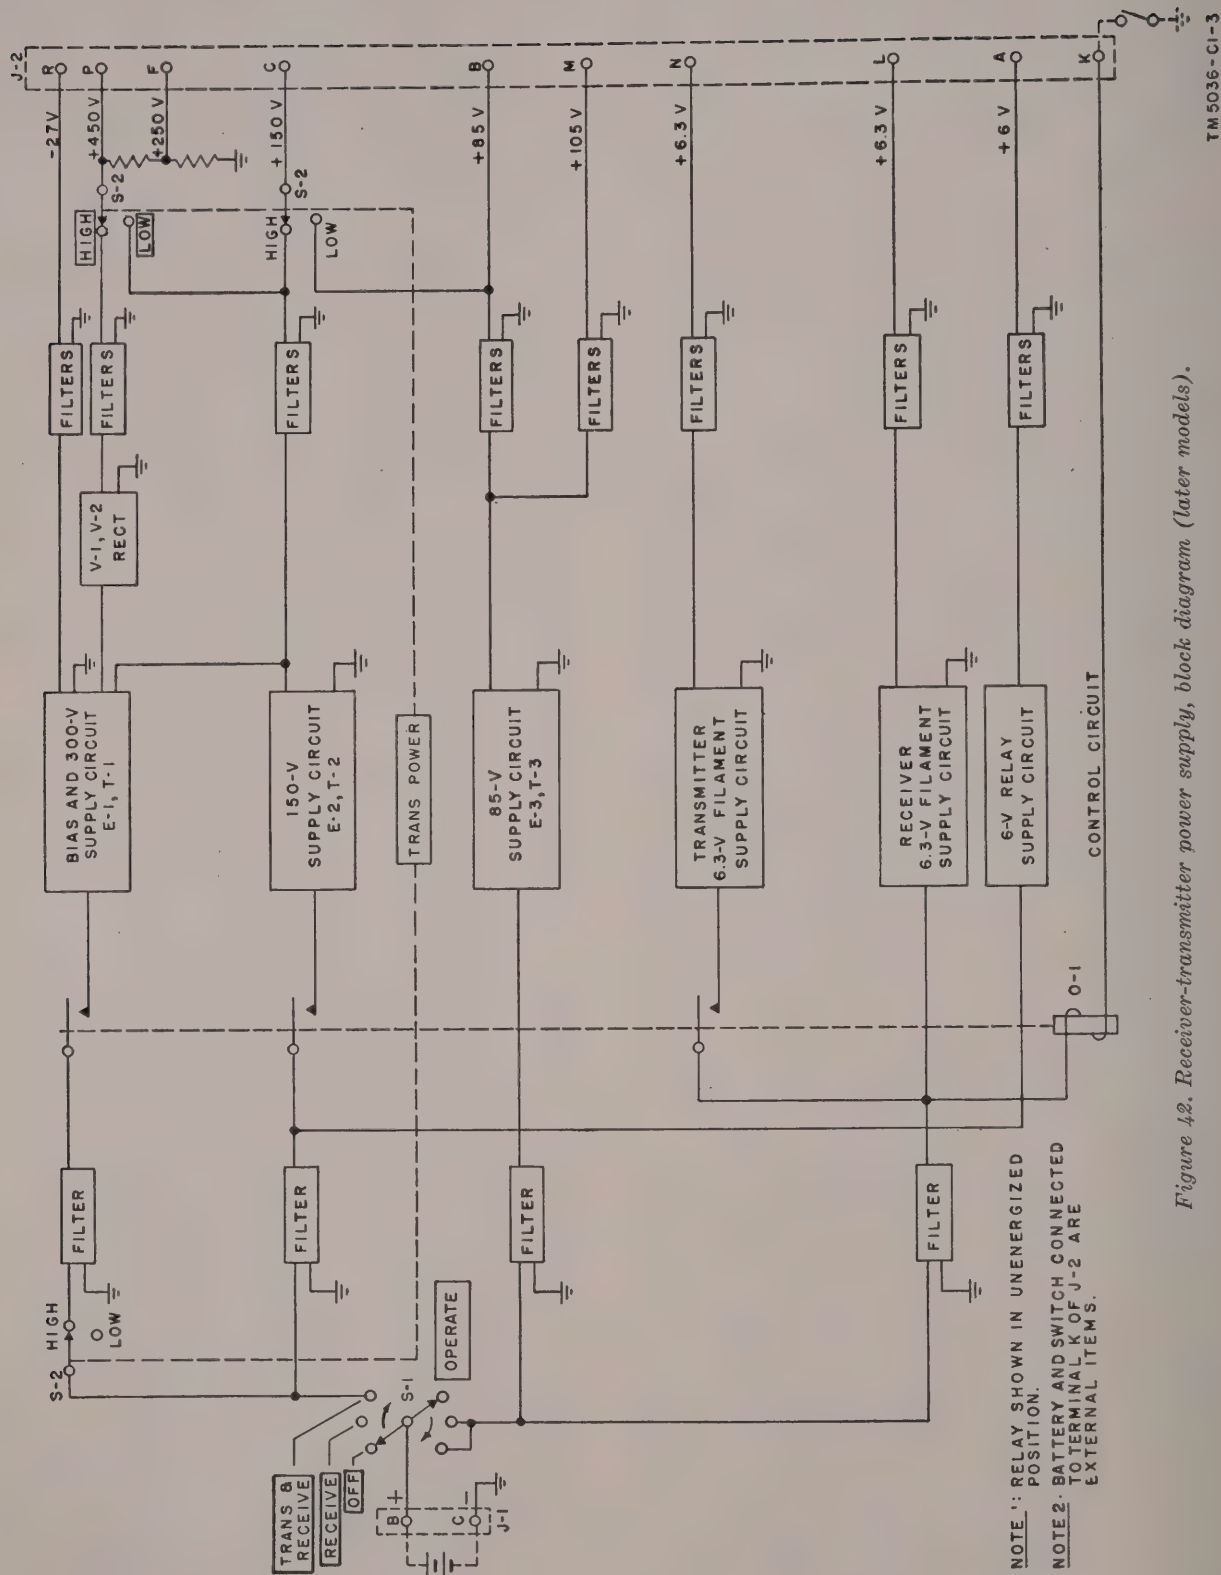

Figure 42. Receiver-transmitter power supply, block diagram (later models).
The discussion of unit theory is limited to block diagram analyses of the major units. Although the maintenance information included in this manual is at an organizational level only, familiarity with the block diagrams of the units will be helpful in trouble shooting. A knowledge of which tubes are receiving tubes and which tubes are transmitting tubes, for example, will aid in the replacement of parts for which the operator has running spares. The block diagrams are shown in figures 42 through 45. Complete schematic diagrams for all units are included as additional information for maintenance personnel (figs. 73 through 93). Resistor and capacitor color and letter codes also are included (figs. 98 and 99).
### 84. Receiver-Transmitter Power Supply (fig. 42)
a. Figure 42 is a functional block diagram of Power Supply PP-109/GR or Power Supply PP-112/GRC. It shows the three h-v circuits and the three l-v circuits supplied from the storage battery input terminals. The h-v circuits are used to provide the plate, screen, and bias voltages for the receiver and transmitter circuits in Receiver-Transmitter RT-66/GRC, RT-67/GRC, or RT-68/GRC. The l-v circuits supply the receiver-transmitter filament and relay potentials.
c. The l-v circuits include the receiver filament supply circuit with output at terminal L of J-2, the transmitter filament supply circuit with output at terminal N of J-2, and the relay supply circuit with output at terminal A of J-2. On later models of the power supply, the 6-volt relay supply circuit is completed only when S-1 is in the TRANS & RECEIVE position (fig. 42).